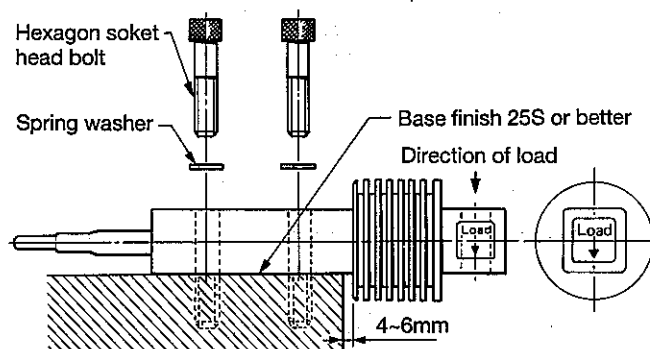

Fig. 1
- 2.1 Install the load cell using hexagon socket bolts and spring washers as shown in Fig.1.